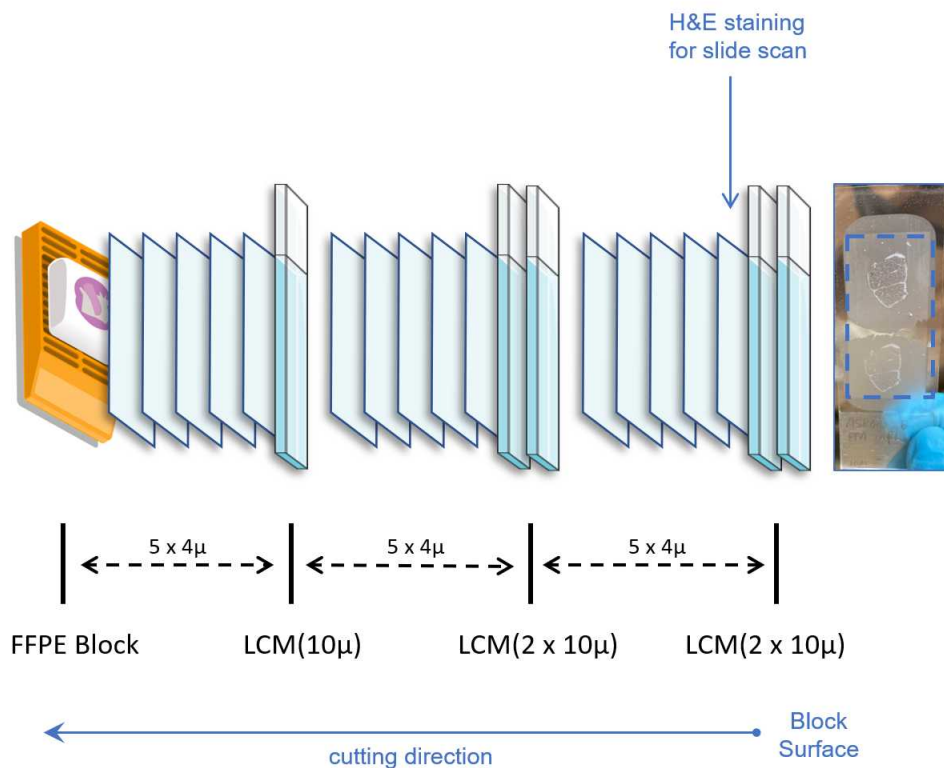

Figure 1. An example of sectioning design
- 2.1 Ideally, cut all slides from the same FFPE block in one sitting (no extra trimming in between). Sections should be $\pm 10\ \mu\text{m}$ thick on PEN slides for LCM, and $\pm 4\ \mu\text{m}$ thick on SuperFrost Plus slides for other staining purposes. Make sure tissues are attached to the membrane area of PEN slides. An example of the sectioning design is below (**Fig. 1**)